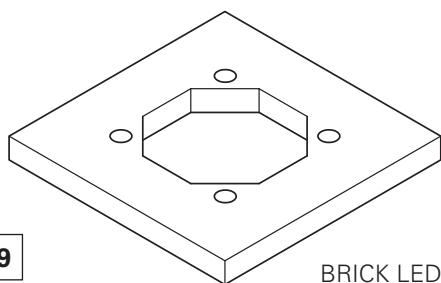

FIGURE 39
(1) If the horizontal distance from the roof ridge to the opening of the chimney is less than 10', the top of the chimney must be at least 2' above the roof ridge.
(2) If the horizontal distance from the opening of the chimney to the roof ridge is more than 10' then a chimney height "work point" is established on the roof surface 10' horizontally from the opening of the chimney. The top of the chimney must be at least 2' above this work point.
(3) In all cases, the chimney cannot be less than 3' above the roof at the edge of the chimney. (**Figures 39 & 40**)